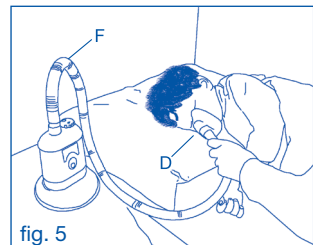

fig. 5
5. To give the dose of medicine to the patient while he/she is lying down (fig. 5), use the extension tube (F), one end of which must be connected to the mask (D) or (E) while the other must be connected to the appliance suitably housed in the special table stand (I).